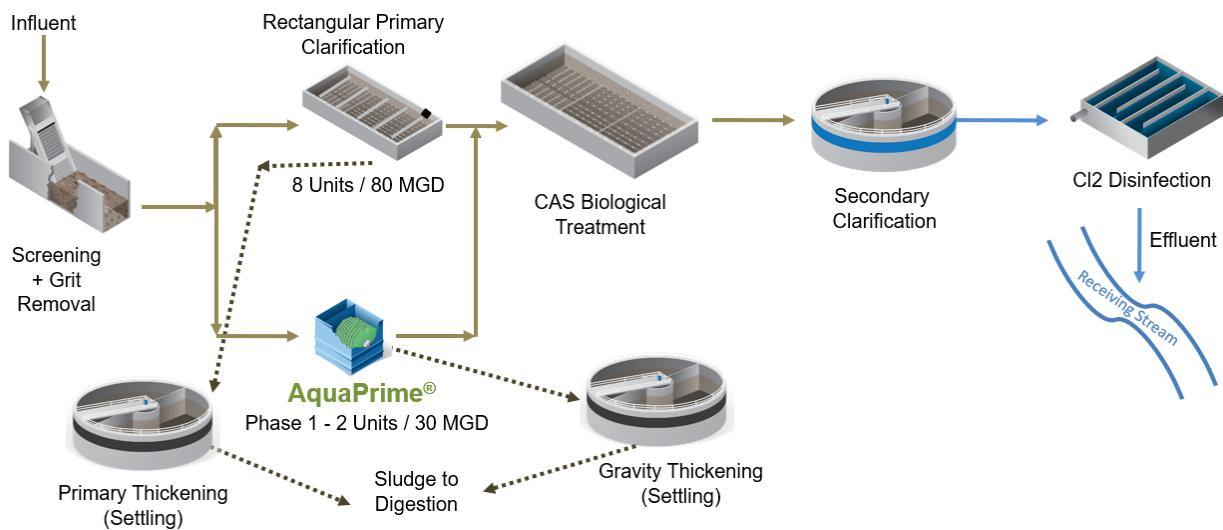

Figure 5: Plant flow scheme.
Design of the AquaPrime system was initiated in 2019 for an average flow of 15 MGD and maximum flow rate of 30 MGD. The design includes two (2) 24-disk units with each disk being 9.8 feet (3 m) in diameter. Each disk has an effective area of 107.6 ft2 with a total filter area of 5164.8 ft2 (479.8 m2). The plant flow diagram for the project is shown below in Figure 5.